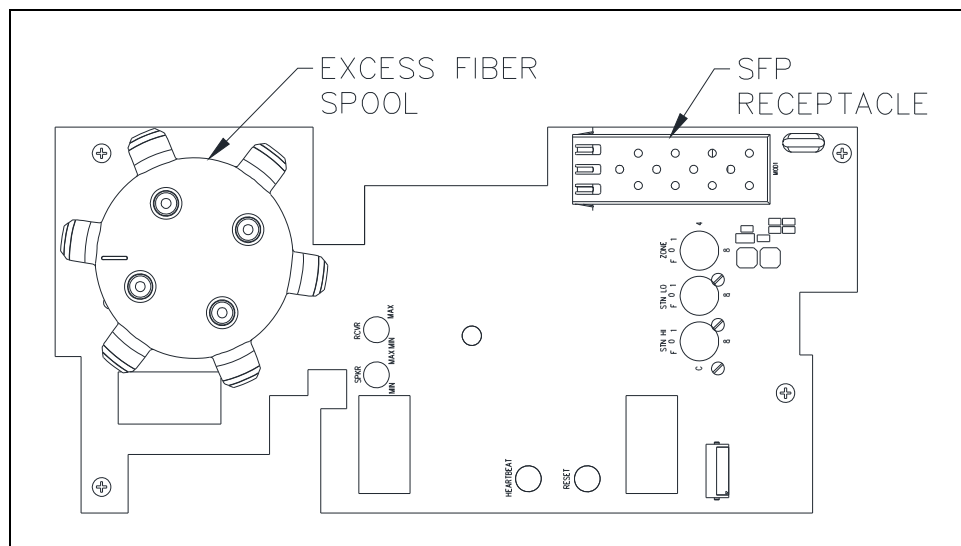
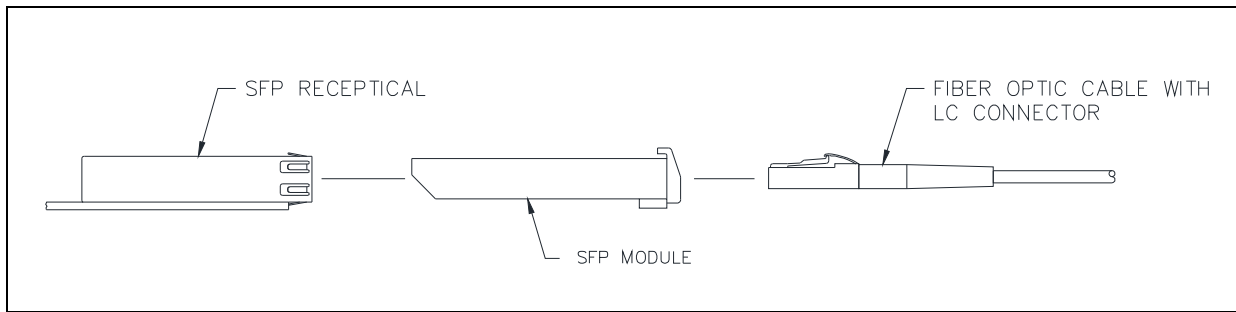

Figure 10. Fiber Termination PCBA
Figure 11. SFP Transceiver Insertion and Fiber Plug-in
1. Insert the SFP transceiver into the SFP receptacle (see Figure 10 and Figure 11).
4. Plug the fiber connector into the SFP (see Figure 11).